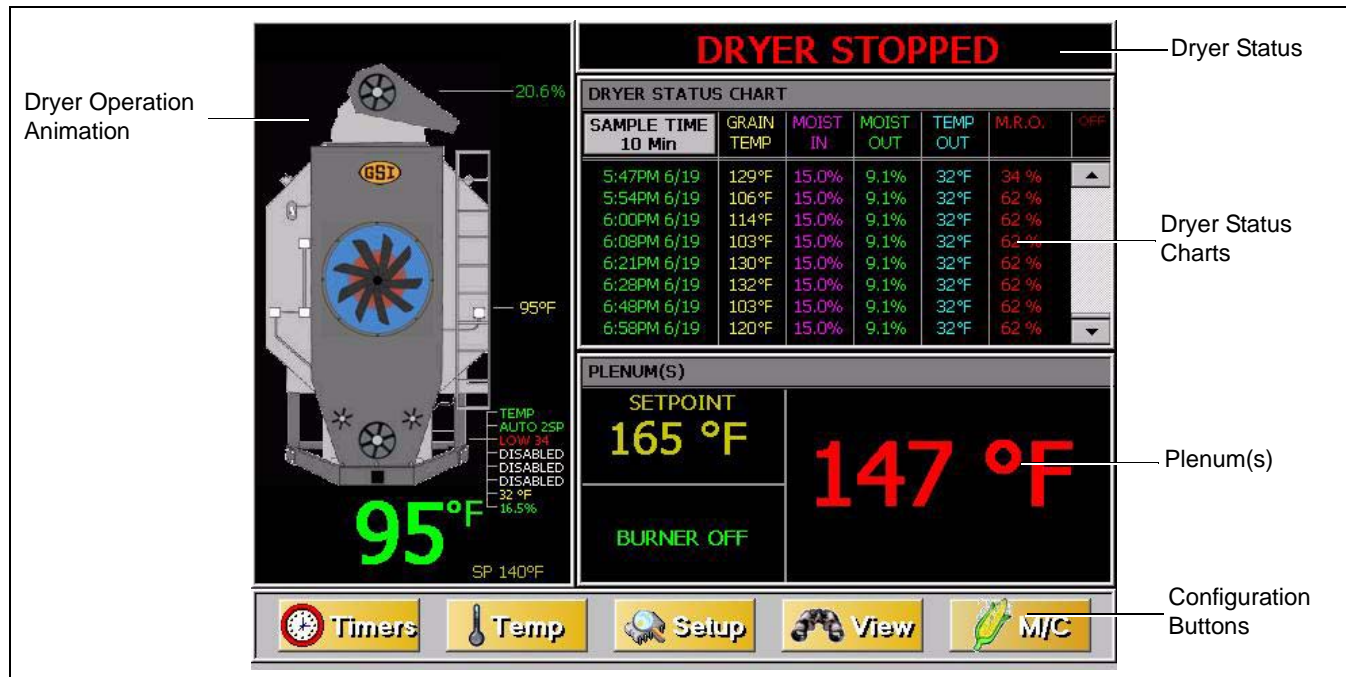

Figure 5A
The “Operation Screen” is divided into five (5) sections. (See Figure 5A.)